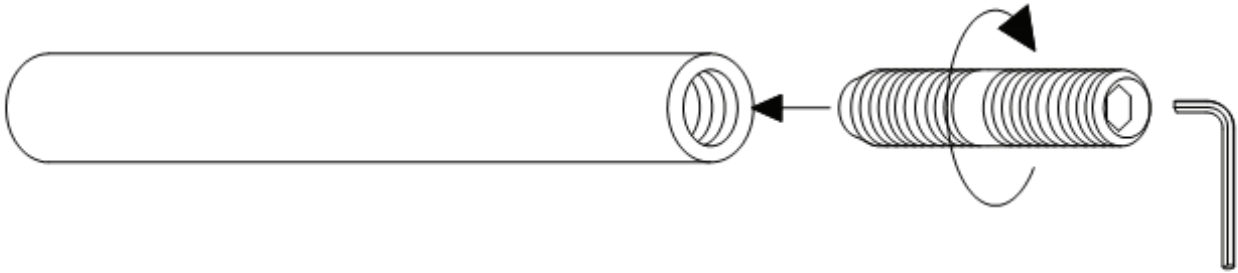

Fig 1
1. Use the included Allen Wrench to tight the connector screw into the end of the rod. (see Fig 1)